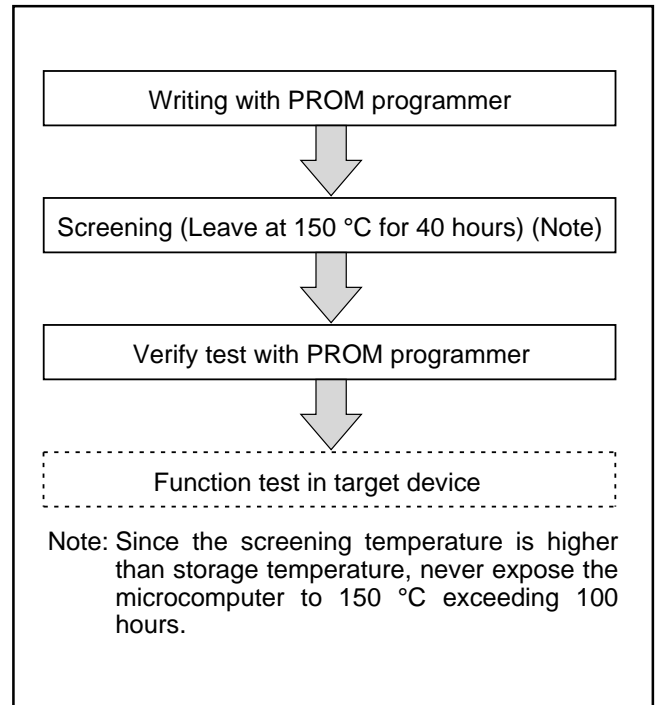

Fig. 32 Flow of writing and test of the product shipped in blank
(6) Notes on handling
- ① A high-voltage is used for writing. Take care that overvoltage is not applied. Take care especially at turning on the power.
- ② For the One Time PROM version, Mitsubishi Electric corp. does not perform PROM writing test and screening in the assembly process and following processes. In order to improve reliability after writing, performing writing and test according to the flow shown in Figure 32 before using is recommended.